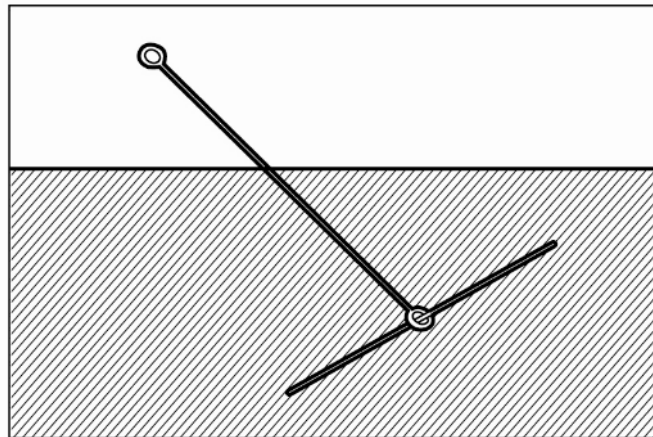

Fig 3 Layout of the Anchor
3. Located the ring-shaped anchor to the base at an angle of about 60-80, check the distance between the hook ring of every anchor and the base center and anchored around the basic level.(as shown in Figure 3)